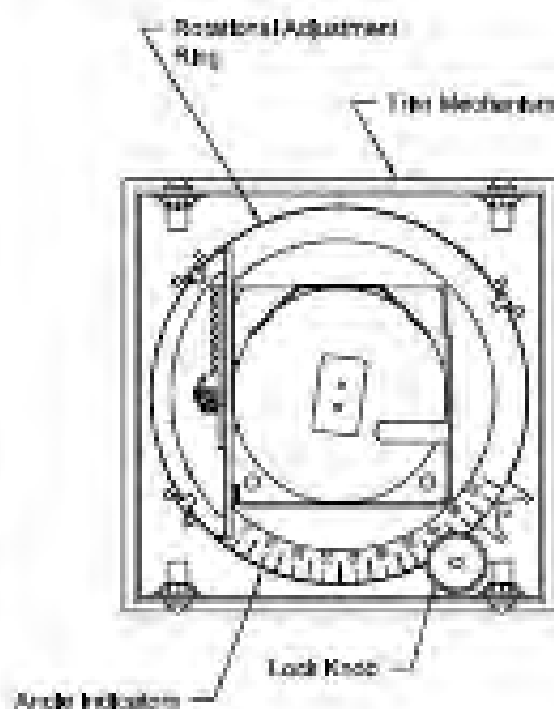

Figure 6
2. To Rotate Lamp, Turn 45-90 Flathead Screw to desired position using Visual Angle Indicators on Rotational Adjustment Ring. See Fig. 6.